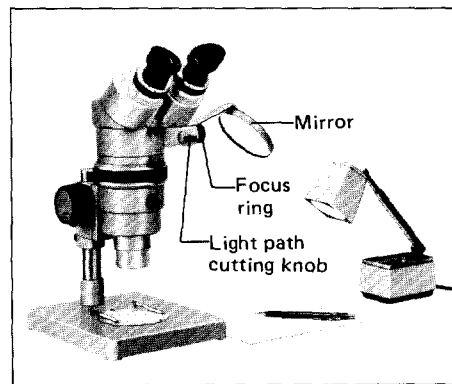

Fig. 22
2. Drawing tube (Fig. 22)
- ① Place a sheet of drawing paper (size: up to A4 or so) under the mirror.
- ② Pull the light path cutting knob toward the operator.
- ③ Looking into the observation tubes, bring the specimen image into focus.
- ④ Put a pencil on the paper. Rotating the focus ring, focus to the image of the pencil. Covering the objective with the hand will facilitate focusing in this case.
- ⑤ Now, the images of the pencil and specimen will be seen superimposed on the paper, permitting tracing the specimen image with the pencil.
- The drawing tube is designed so as to place the drawing paper on the right side. (Refer to Fig. 22)